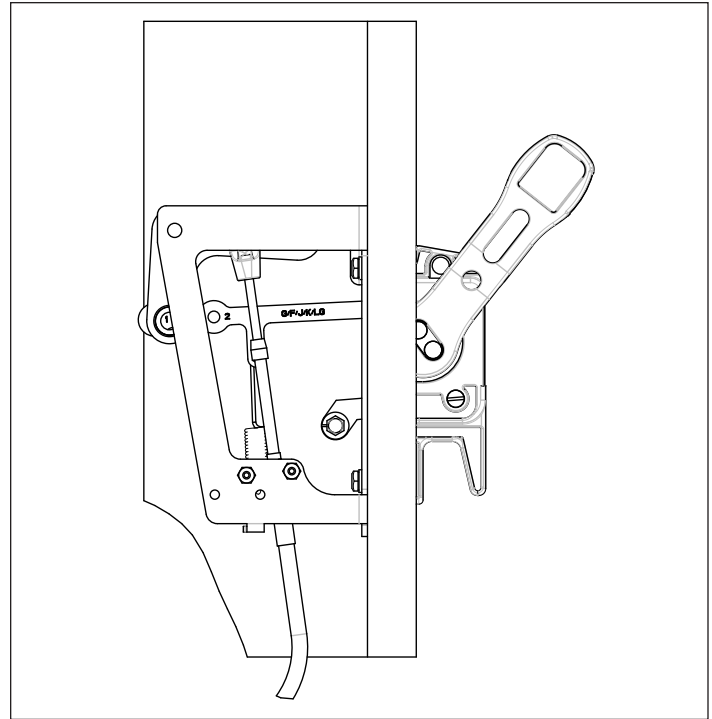

Figure 6. Assembly of Adapter Link to Bell Crank.
6. Connect the long end of the spring through hole in handle actuator link. Hook the shorter end of the spring into the tab on the lower portion of the toggle mechanism (see Figure 6).